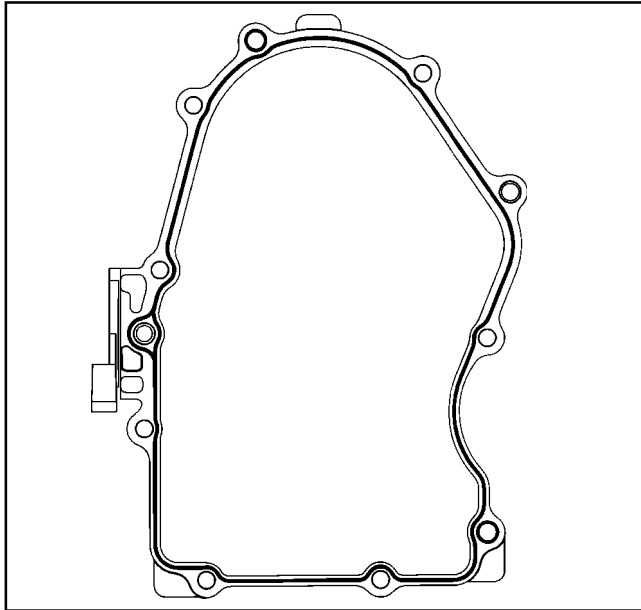

Figure 11-19. Closure Plate Sealant Pattern.
- Apply a 1.5 mm (1/16 in.) bead of sealant to the sealing surface of the closure plate. See Figure 11-19 for sealant pattern.